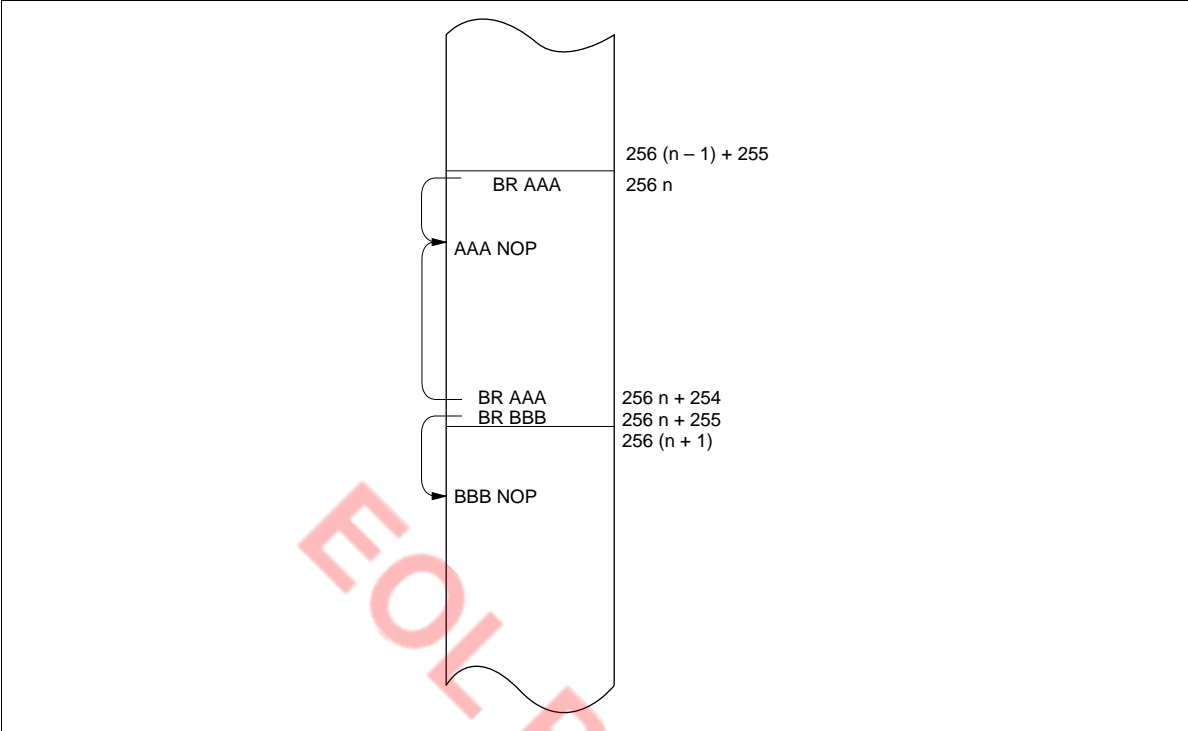

Figure 46 Page Boundary between BR Instruction and Branch Destination
**Current Page Addressing Mode:** The MCU has 32 pages of ROM with 256 words per page. A program can branch to any address in the current page by executing the BR instruction. This instruction replaces the eight low-order bits of the program counter ( $PC_7$ – $PC_0$ ) with eight-bit immediate data. If the BR instruction is on a page boundary (address  $256n + 255$ ), executing that instruction transfers the PC contents to the next physical page, as shown in figure 46. This means that the execution of the BR instruction on a page boundary will make the program branch to the next page.